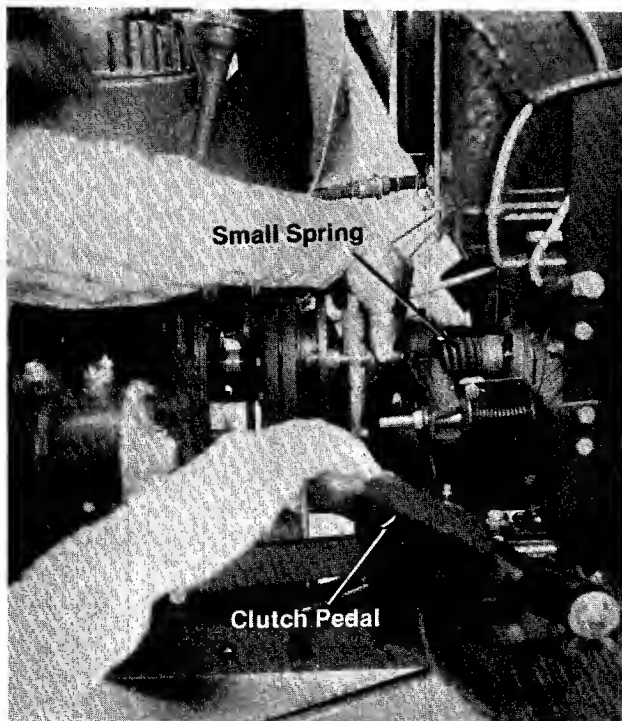

Figure 24
3. To check the disengagement of the clutch without starting the engine depress the clutch pedal with one hand and using the other hand, try to rotate the small spring located between the pressure plate and the throwout assembly. The spring should rotate. If not, repeat steps 1 and 2. (See figure 24.) If the correct adjustment cannot be obtained, refer to the troubleshooting chart.